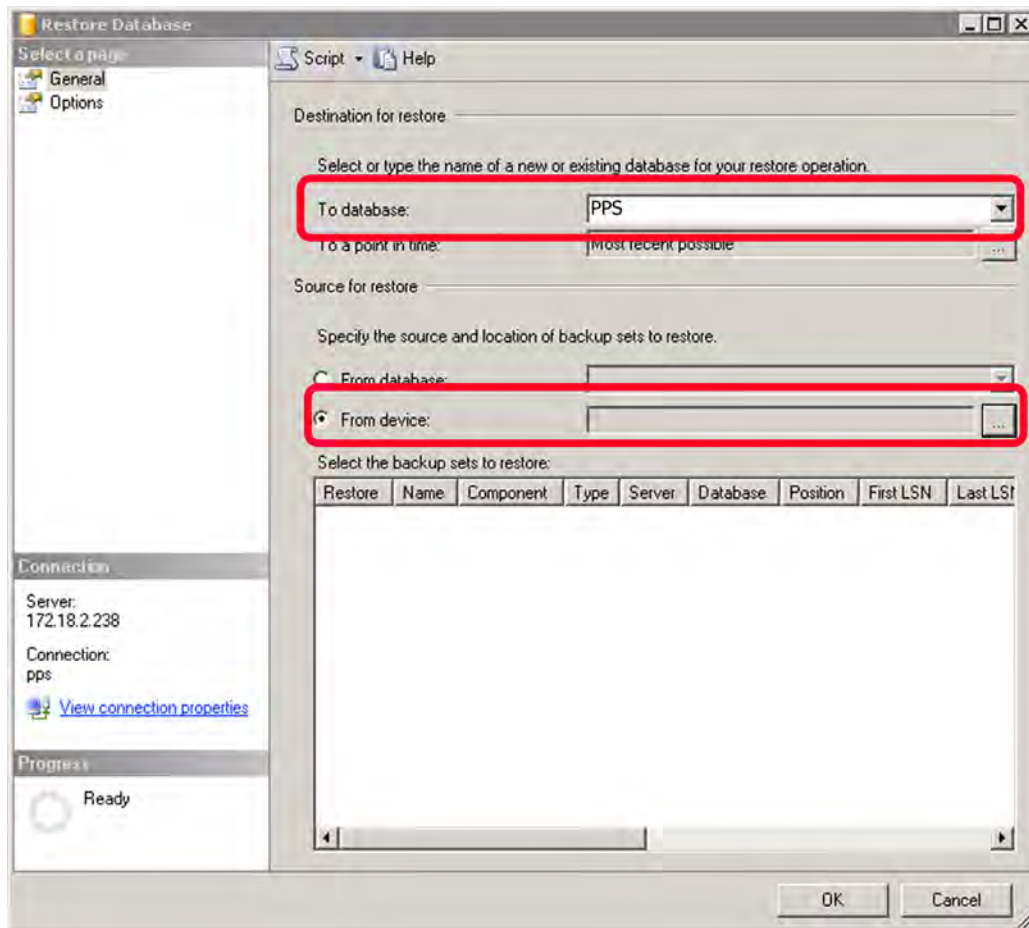

Figure 115. The Restore Database dialog.
4. Type “PPS” in the **To database** field of the *Restore Database* dialog (see Figure 115).